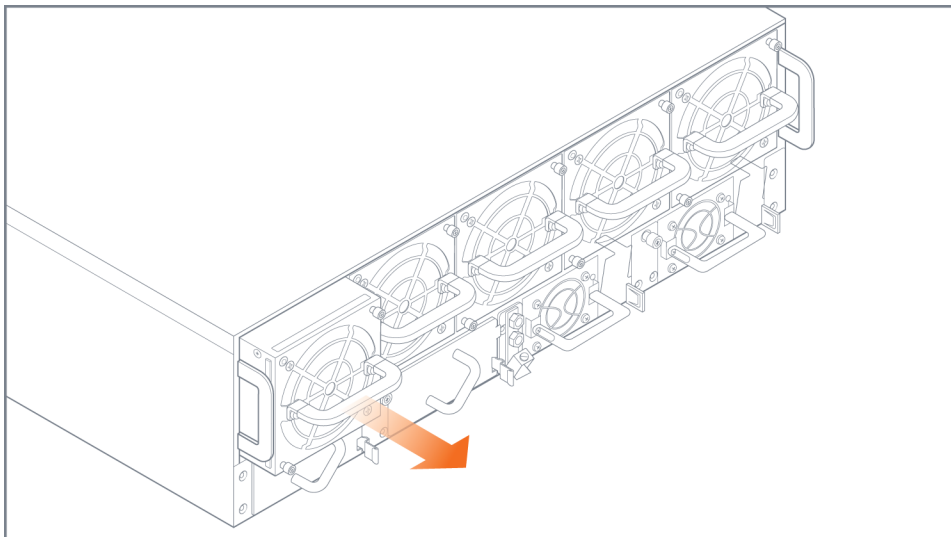

Figure 8 Fan Module Removal
3. Pull the failed fan module out of the slot and set it aside. Refer to Figure 8 Fan Module Removal.